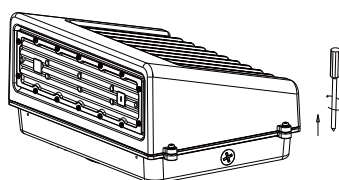

Fig. 1-1A
- 1.Take out the fixture, and loosen the screws on the cover and take apart the fixture by the screwdriver. Pull off the quick connect terminal vigorously.(Fig.1-1A&B)